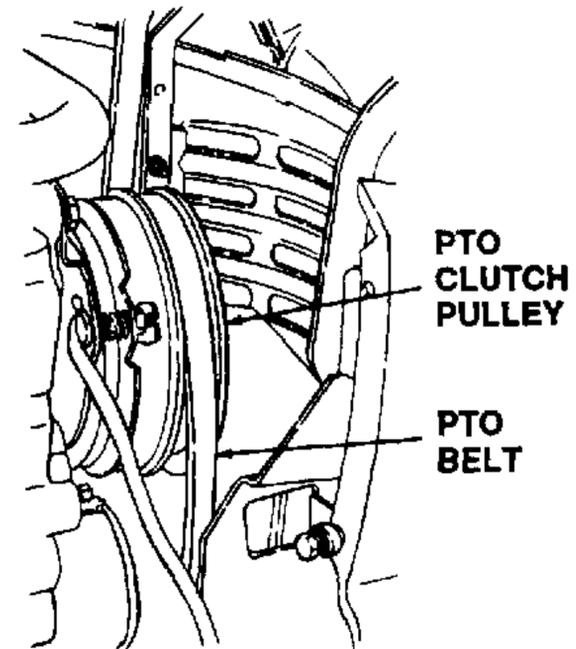

Figure 7-64. Install PTO Belt On PTO Clutch.
- d. Install the forward end of the PTO belt on the PTO clutch by passing the belt upward inside the tractor frame. Make sure the V-side of the belt fully engages the groove of the pulley. See Figure 7-64.